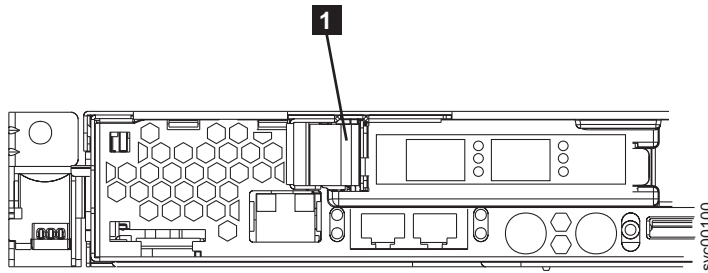

Figure 148. SAN Volume Controller 2145-8F2 or SAN Volume Controller 2145-8F4 PCI slot 1 card retainer
1. Install the fibre-channel card in slot 1, which is shown in Figure 148 on page 164.